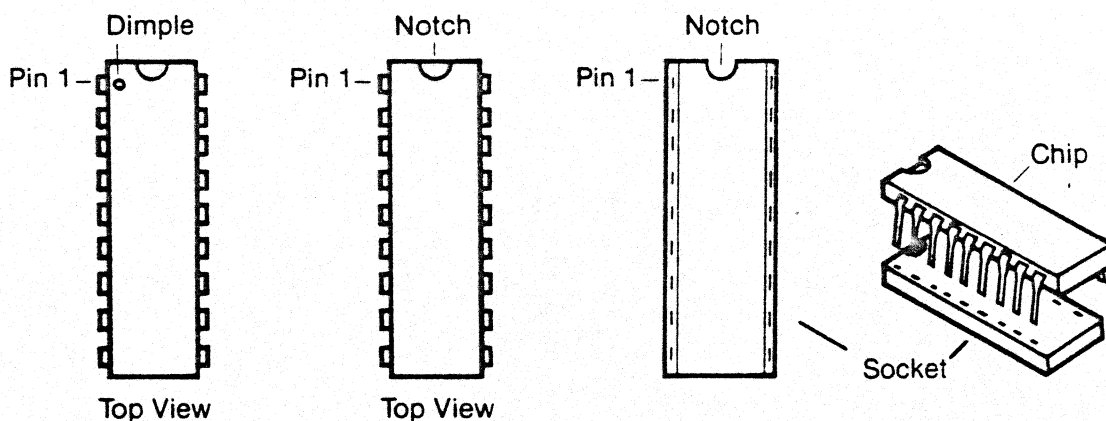

Figure 5-5. Socketed Chip - Pin One Location
2. Carefully check for pin 1 location of the chip and the socket. Pin 1 is designated as shown in figure 5-5.